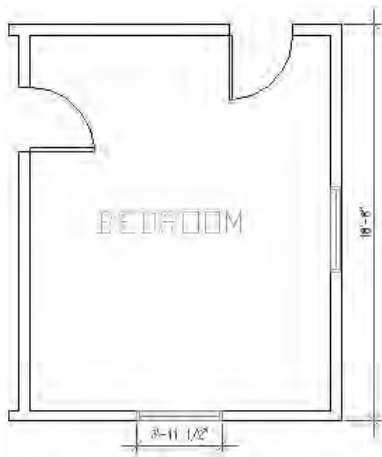

Figure 14-5: The bedroom with two linear dimensions
6. Save your drawing. It should look like Figure 14-5.